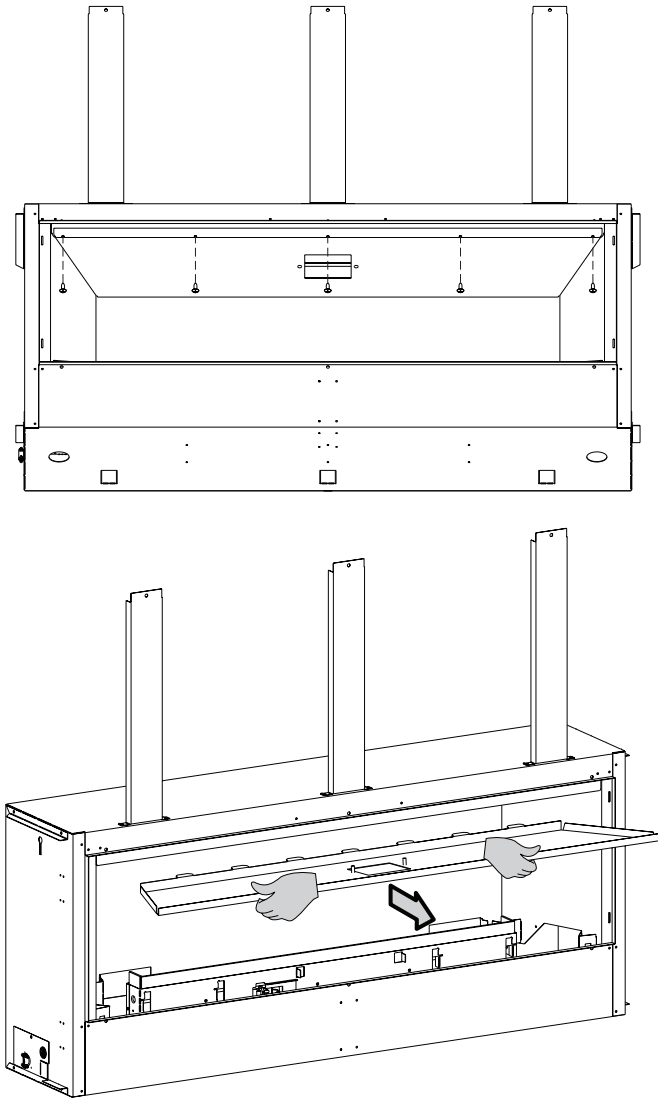

Figure 5
5. Remove the inner firebox top by removing five Phillips Truss Head Screws. Set aside. See Figure 5.
12. Secure the liners in place by reinstalling the inner firebox top and five screws removed in Step 5. See Figures 5 and 9.